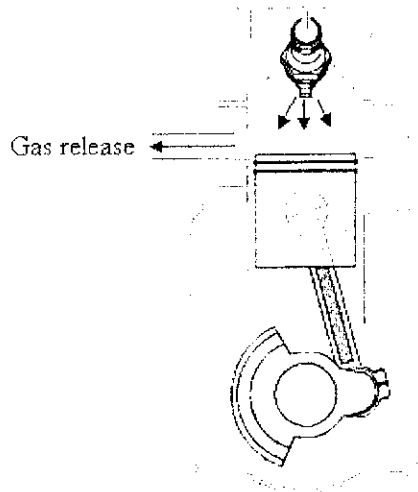

Figure 6
14. Figure 6 shows the internal combustion engine.